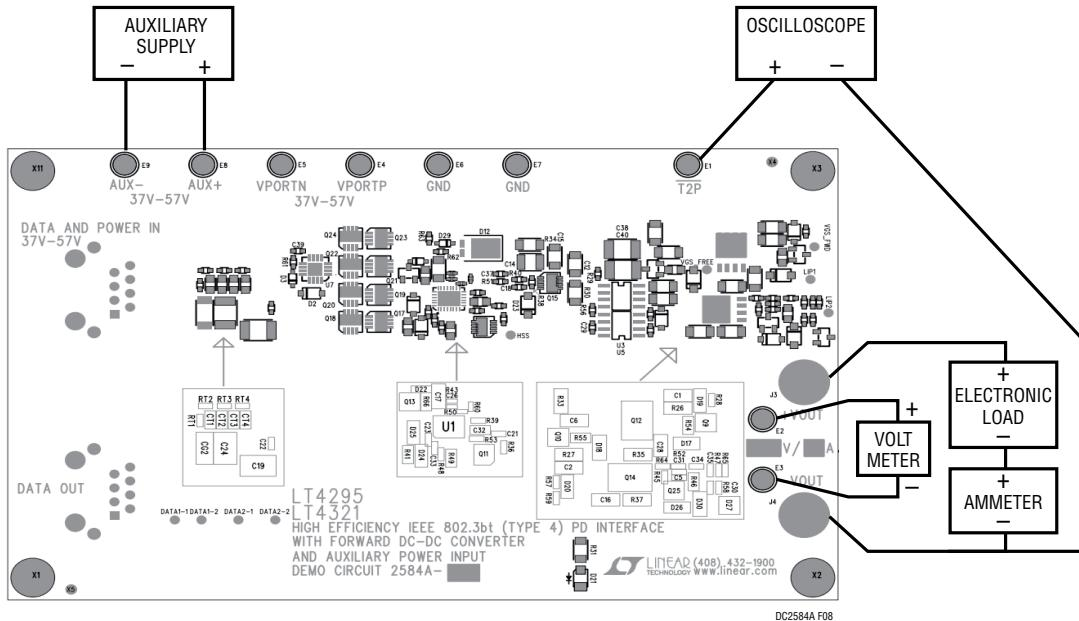

Figure 8. Setup Diagram for Auxiliary Supply Input
1. Place and connect test equipment (voltmeter, ammeter, oscilloscope, and electronic load) as shown in Figure 8.
3. Connect the output of the auxiliary supply to the DC2584A as shown in Figure 8. Turn on the auxiliary supply and set its current limit to 2A. Then increase its output voltage to 48V.
6. Verify  $\overline{T2P}$  response with an oscilloscope as shown in Figure 8. The  $\overline{T2P}$  response during auxiliary power operation is: 75% Logic High/25% Logic Low, Toggle at  $976Hz \pm 7\%$ .